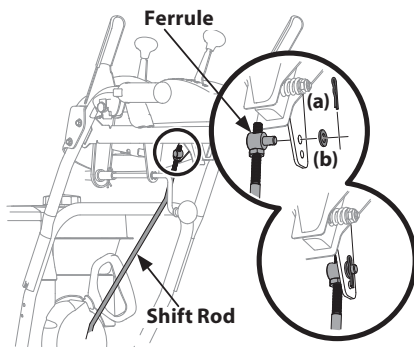

Figure 2-38
8. Remove cotter pin (a) and washer (b) from ferrule on end of shift rod. See Figure 2-38 inset.